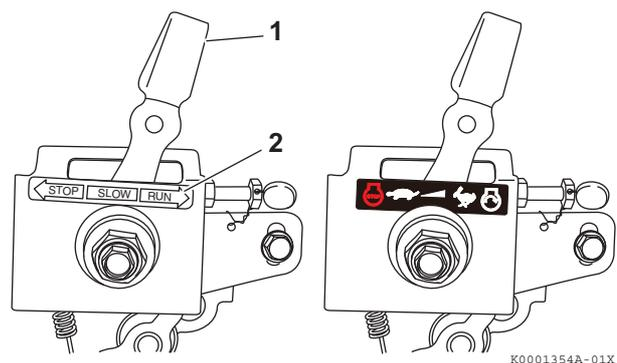

Figure 11
1. If your engine speed control is similar to **Figure 11** slide the engine speed control lever (**Figure 11, (1)**) to the RUN position (**Figure 11, (2)**).